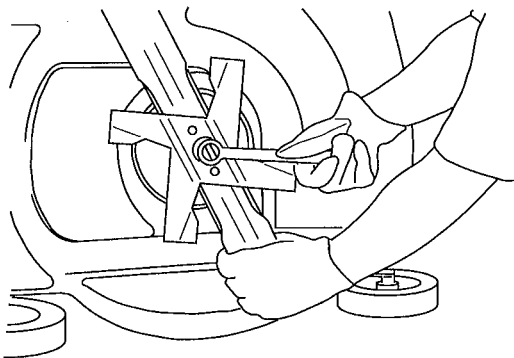

Figure 26
3. Install mulch fan into blade recess and secure with blade nut (Fig. 26).